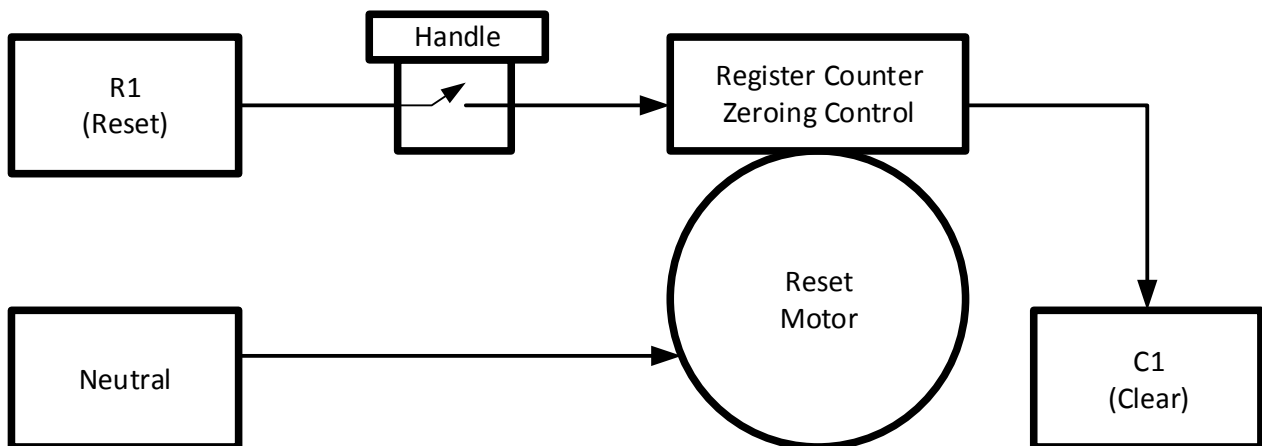

Figure 4: Reset Motor Circuit
2. A dry contact switch which closes when the mechanical register has been reset to zero AND opens when the pump handle is returned to the "OFF" position (Figure 4).
Two examples (Figures 4 & 5) of dry contact switch schematics. The reset motor circuit is typical for gas station style dispensers. The Mimic Switch Circuit is the minimum necessary for the M4000 direct dispenser interface.
The Reset (R) and Clear (C) signals (see Figures 4 & 5) can sometimes be exposed to electrical noise caused by high voltage arcing across switch contacts. Because of this potential problem, it is advised to allow an extra length of 4" to both the Reset and Clear wires. This will allow the installation of optional ferrite filters to prevent this noise from affecting the DPI logic. In extreme cases of arcing and/or inductive kick-back noise, the addition of snubber circuits has proven effective. The snubber part installs with the black lead to the Reset (pin 2) or Clear (pin 6) and the white lead attaches to either pin 7 or 8 (both are Neutral) on the Relay Modules terminal strip.